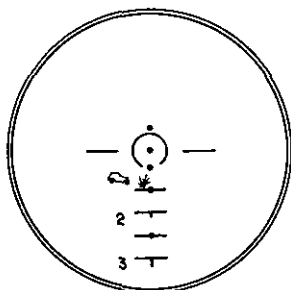

FIGURE 62.
28. The first round strikes ahead of and a little below the target, as shown in the sight-picture (fig. 62). Give your commands.